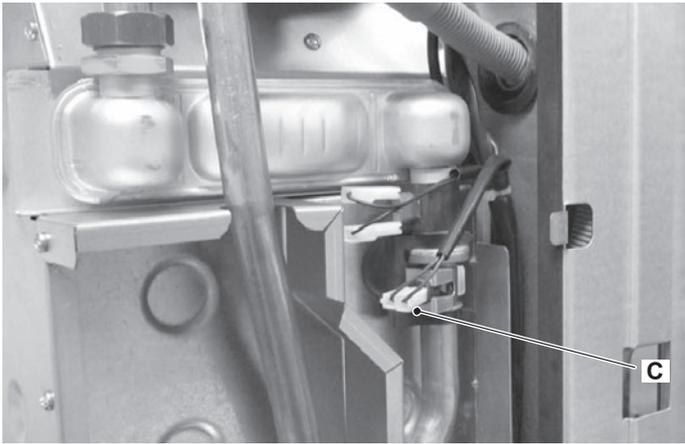

Figure 10.7
- 5 Disconnect the electrical connectors C of the C.h. temperature probe NTC in Figure 10.7.
- 7 Connect the electrical connectors C of the C.h. temperature probe NTC in Figure 10.7.